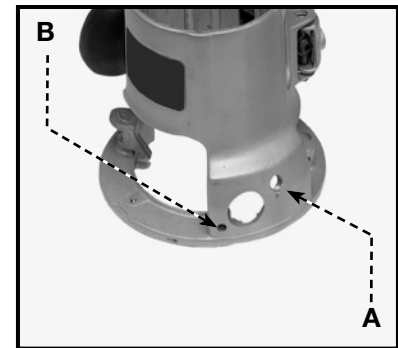

Fig. 4
4. Align the mounting holes of the GripVac™ handle to the mounting holes of the router base (A) Fig. 4.
5. Insert a hex screw (7) Fig. 1 through the handle into hole (A) Fig. 4. From inside the base housing, hold the shoulder washer (8) Fig. 1 on the screw. Thread the hex nut (9) Fig. 1 on the screw and finger tighten only.
6. From inside the base housing, insert the second screw (7) Fig. 1 into the hole (B) Fig. 4 and screw it into the threaded hole of the GripVac™ handle.